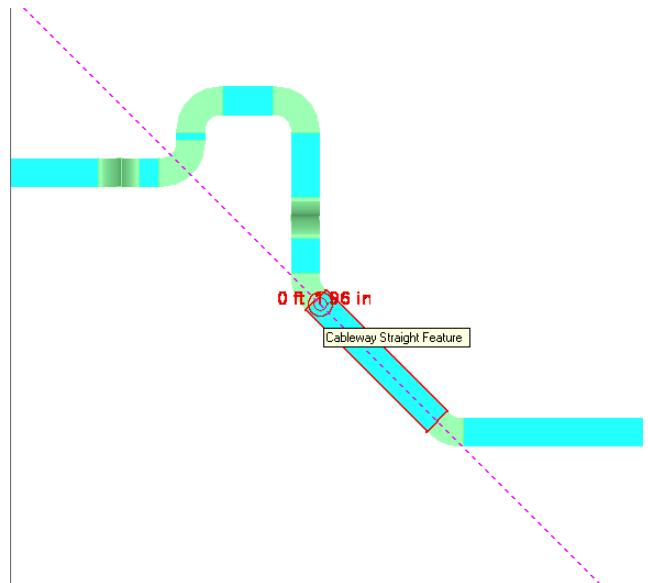

Figure 21: Cableway End Feature
35. Select the **Cableway End Feature** of a cableway to specify the point from which to measure the placement distance as shown in Figure 21.